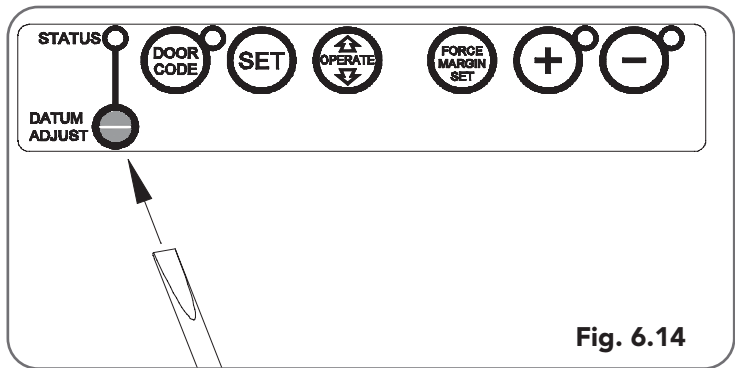

Fig. 6.14
- Using a small blade screw driver turn the datum adjust screw slowly until the yellow status LED just illuminates. (Fig 6.14)